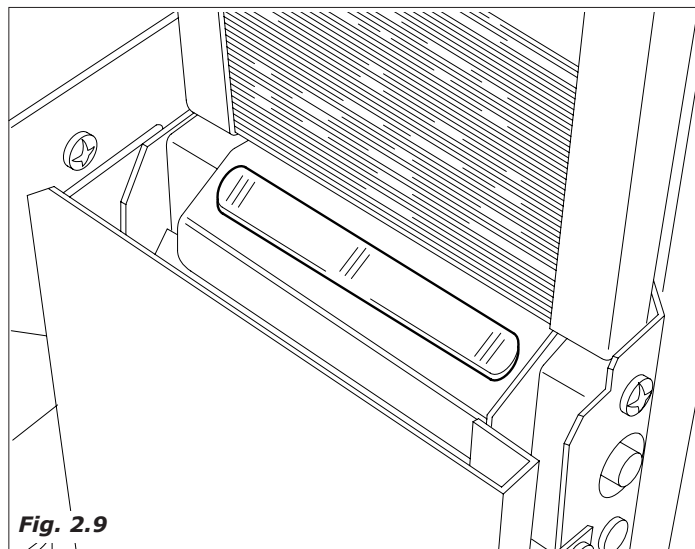

Fig. 2.9
- the geared motor that operates the spoon release device is activated making the spoon fall into the cup. (Fig.2.9).